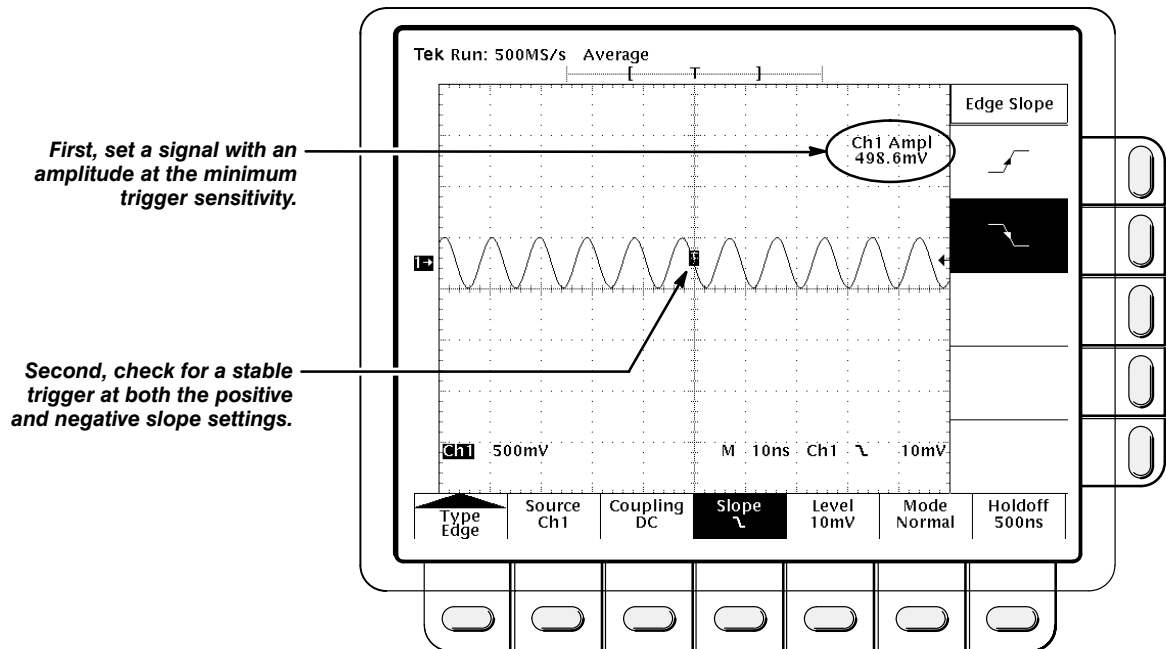

Figure 4-9: Measuring Trigger Sensitivity
15. Press **SET LEVEL TO 50%**. Check that a stable trigger is obtained for the test waveform on both the positive and negative slopes (see Figure 4-9). (Use the side menu to switch between trigger slopes; use the trigger **LEVEL** knob to stabilize the trigger if required.)